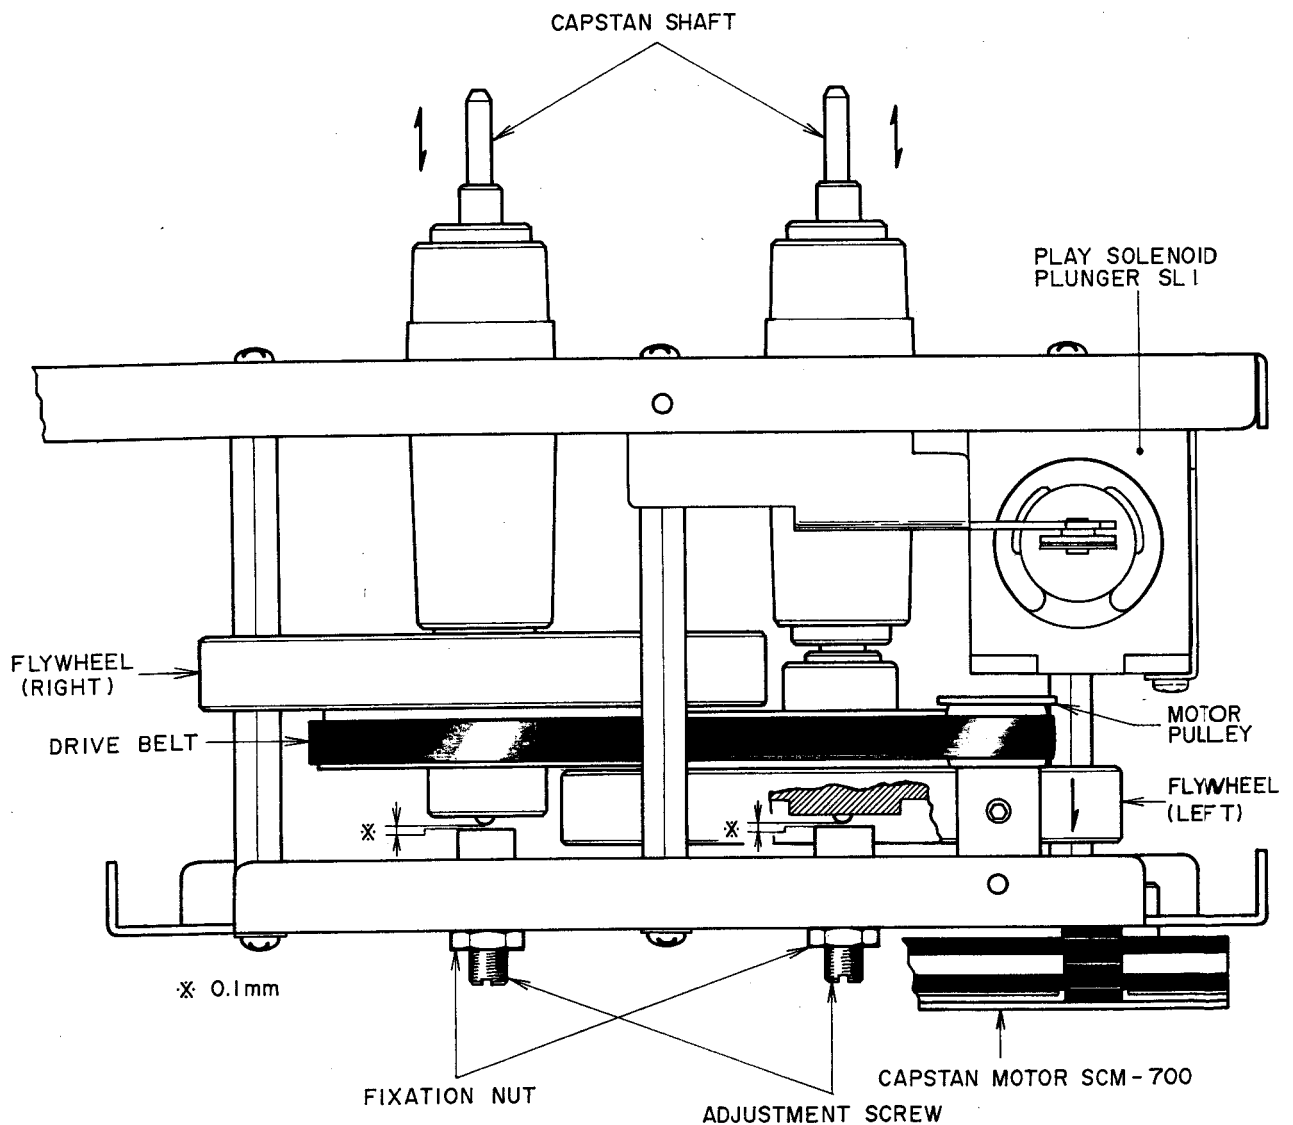

Fig. 3
1) Capstan Shaft Loose Play Adjustment (Refer to Fig. 3)
Adjust by turning adjustment screws to obtain a 0.1 mm degree of loose play (space indicated by * mark in fig. 3) when the capstan shaft is moved as indicated by the arrow mark. Tighten fixation nut to maintain optimum adjusted condition.